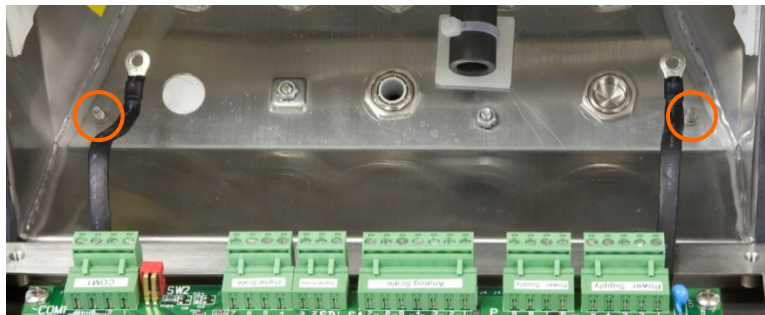

Figure 3-12: Additional Studs for Alternative Attachment of Cover
- C. Carefully rotate the front cover 180 degrees and reattach the two grounding straps to the two studs on the opposite side of the housing shown in Figure 3-12, near the grip bushings using the two nuts removed in the previous step. Tighten the two nuts.